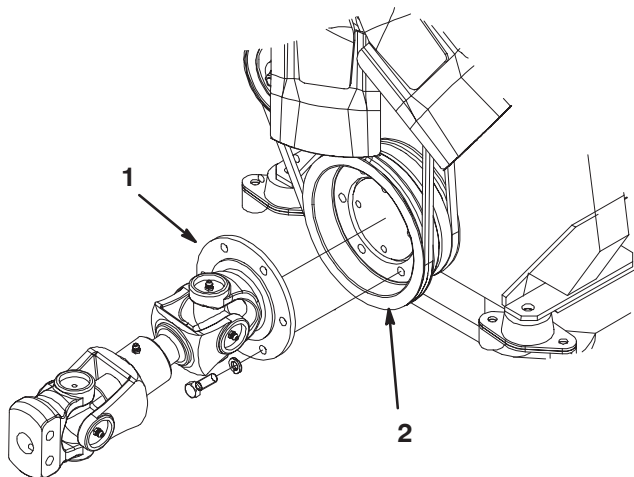

Figure 3
10. To allow the removal of the belts, remove the fasteners securing the drive shaft to the fan drive pulley (Fig. 3).
22. Insert drive shaft yoke onto pump spline and secure with fasteners removed (Fig. 3).